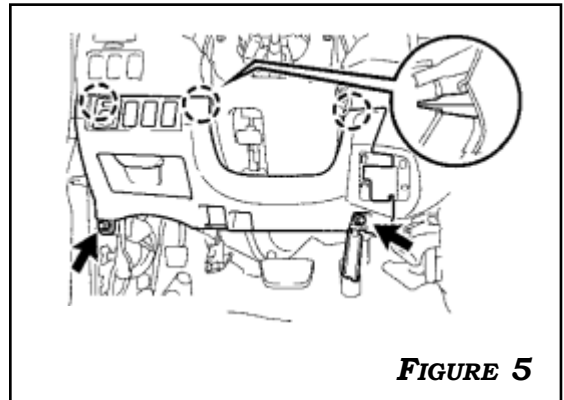

FIGURE 5
5. REMOVE (2) 10MM BOLTS AND DISENGAGE THE CLIPS TO REMOVE THE LOWER INSTRUMENT FINISH PANEL. **FIGURE 5**